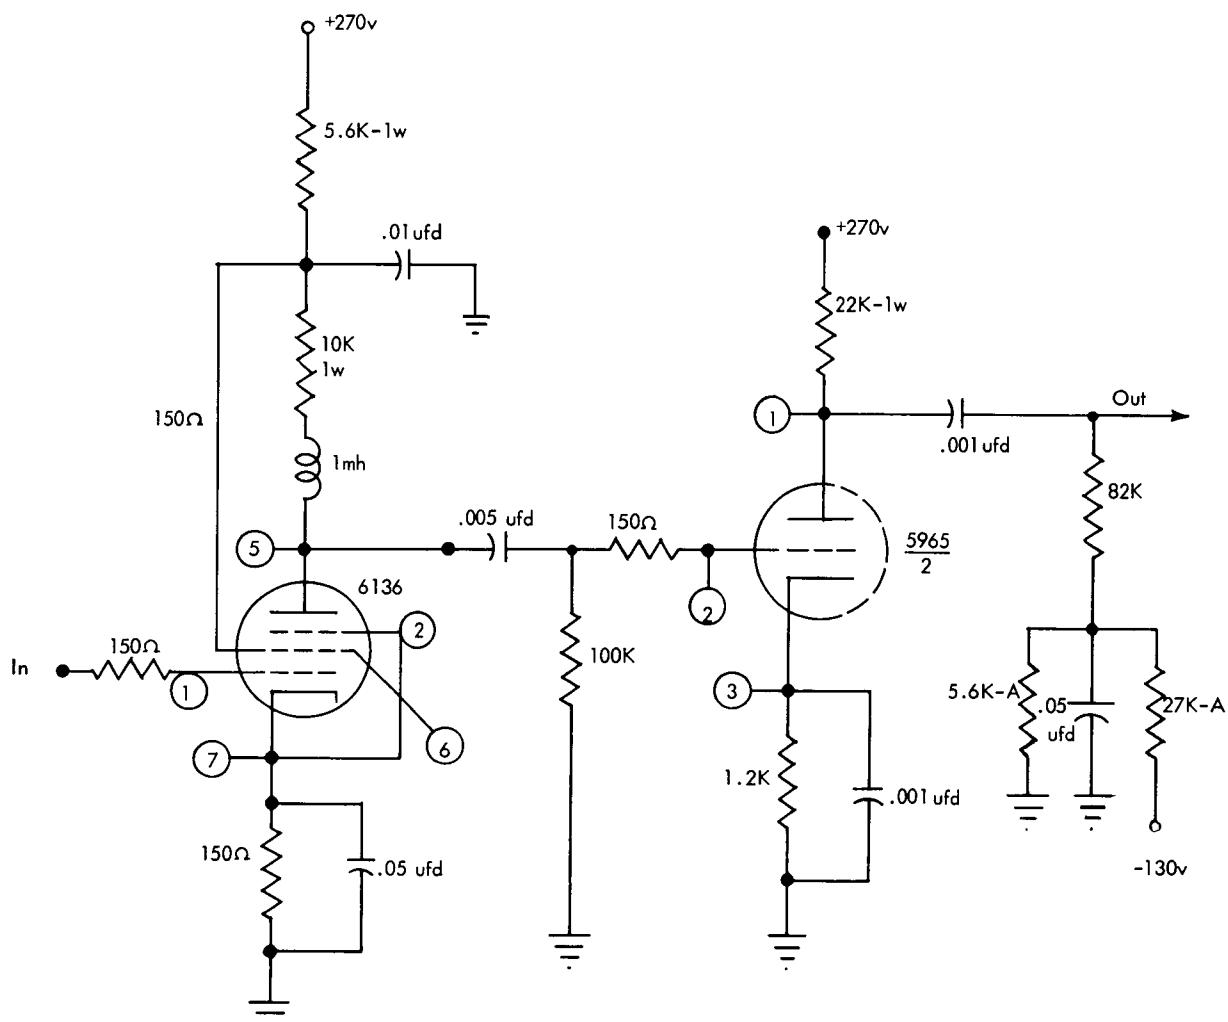

FIGURE D42. READ AMPLIFIER, CORE -  $AR_C$
The read amplifier (core),  $AR_C$ , (Figure D42) is used to sense the output of the buffer memory in the 760. The  $AR_C$  is composed of a pentode driving a triode which in turn is AC-coupled to a standard cathode follower (K). The input of the  $AR_C$  is the rectified output of a pulse transformer. The rectifier is composed of the secondary of the pulse transformer and two type F diodes. The rectified signal is applied to the grid of the class-A-operated triode-connected pentode. The bias for this stage is obtained by a by-passed cathode resistor.